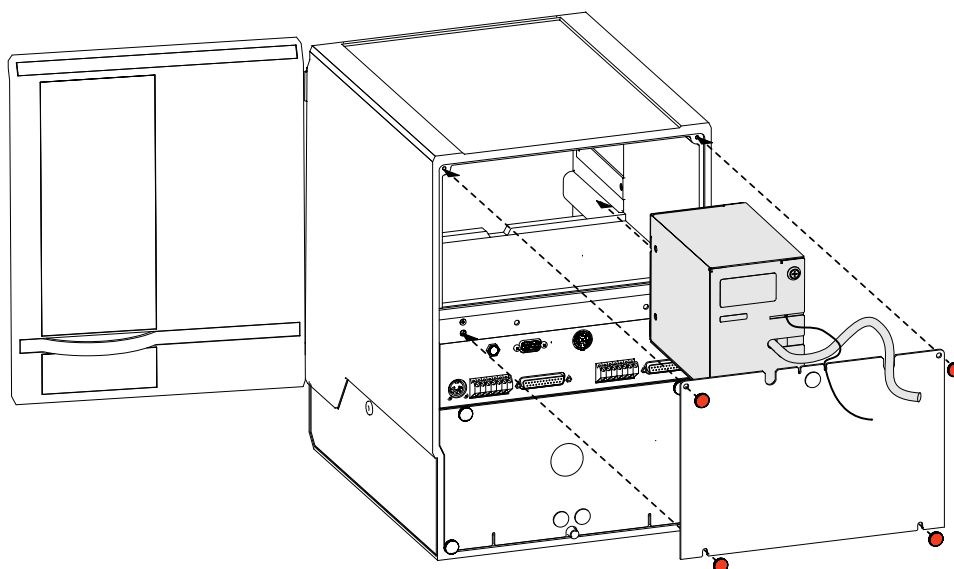

Fig. 7: Insert detector block in the Separation Center
- Position detector block from the back in the space provided in the 820 IC Separation Center on the right and push fully to the front (see *Fig. 7*, resp. *Fig. 21* and *Fig. 23*).
- Position first detector block from the back in the space provided in the 820 IC Separation Center on the right and push fully to the front (see *Fig. 7*, resp. *Fig. 22* and *Fig. 25*).
- Position second detector block from the back in the space provided in the 820 IC Separation Center on the left and push fully to the front (see *Fig. 7*, resp. *Fig. 22* and *Fig. 25*).